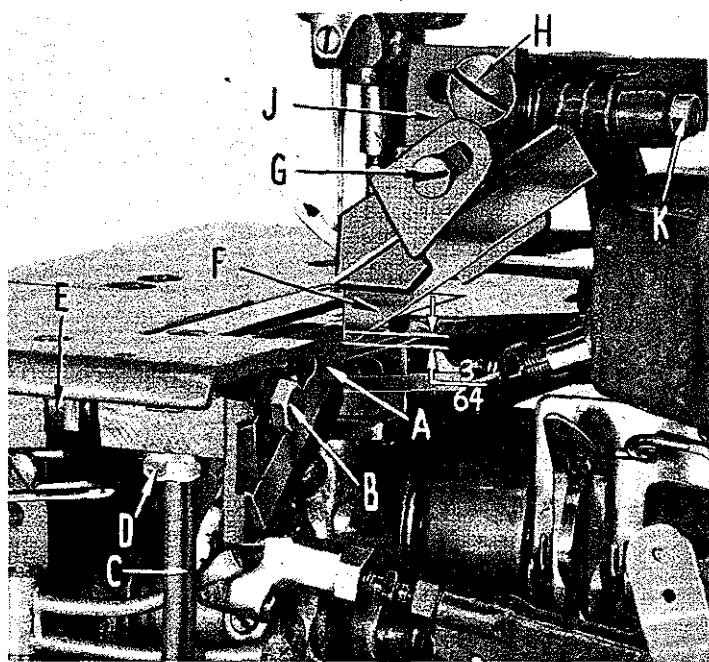

Fig. 12
Turn the handwheel in operating direction until the upper knife arm is in its lowest position. The cutting edge of the upper knife (F, Fig. 12) should overlap the cutting edge of the lower knife by about $1/64$ inch. Loosen clamp screw (G) to adjust upper knife. Move knife to the left to lower it or to the right to raise it. Tighten clamp screw. To set the spring tension on the upper knife, loosen screw (H), move knife holder block (J) to the left, and while holding it in this position, push knife guide collar shaft (K) to the right to increase spring tension on upper knife and tighten screw (H). Turn handwheel in operating direction until the upper knife is at its highest point of travel, and at this point, the pilot of the upper knife should overlap the lower knife about $3/64$ inch (Fig. 12).
The lower knife (A, Fig. 12) should be set so that its cutting edge is even with the top surface of the throat plate. Use a steel scale to get a parallel setting and when knife is at the right